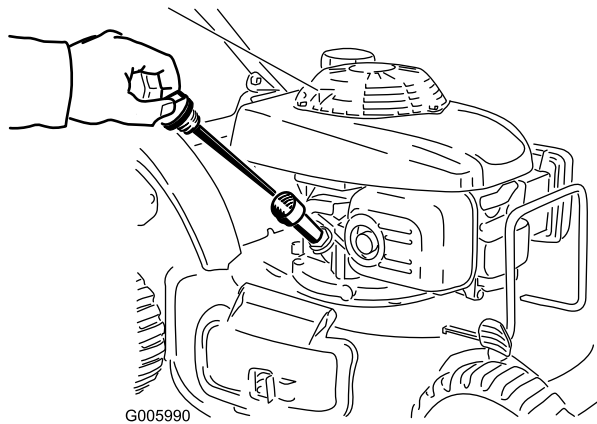

Figure 19
1. Remove the dipstick, wipe it clean, and insert it into the oil filler neck, **but do not screw it in** (Figure 19).
2. Remove the dipstick and check the oil level (Figure 19).
If there is no oil on the dipstick, **slowly** pour oil into the oil fill tube, periodically checking the level with the dipstick, until the dipstick indicates that the engine is full as illustrated in Figure 19. **Do not overfill.** (Max. fill: 20 oz. (0.55 l), type: SAE 30W detergent oil with an API service classification of SH, SJ, SL, or higher.)